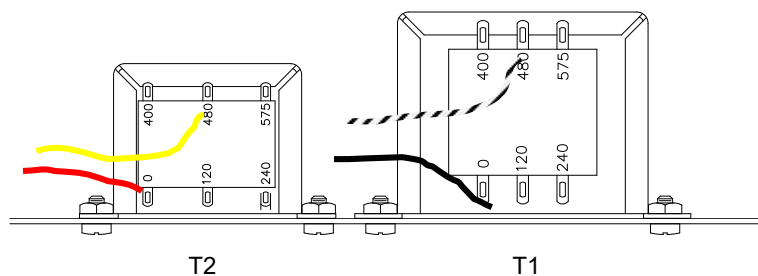

Figure 3.3 T1, T2 Transformer Connections
Using appropriately sized and insulated conductors for the voltage and current ratings of your model, make connections as shown in Figure 3.3. (Refer to Table 3.1 for wire size information). Torque specifications of bolted connections can be found in Table 7.2.
1. Open the SCR power controller, and locate transformer T1 and T2. The primary side of T1 transformer will contain two wires (one black, the other white and black), the primary side of T2 will contain two wires (one red the other yellow). Refer to Figure 3.3.